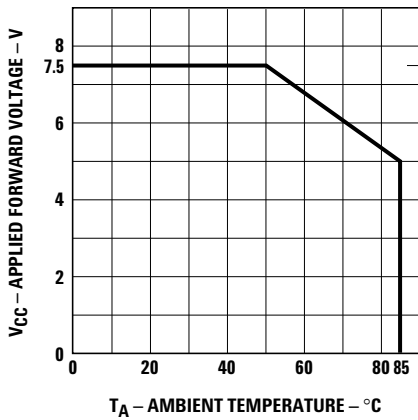

Figure 3. Maximum allowed applied forward voltage vs. ambient temperature $R\theta_{JA} = 175^{\circ}\text{C/W}$. 5 volt devices.
- Derate from $T_A = 50^\circ\text{C}$ at 0.071 V/°C, see Figure 3.